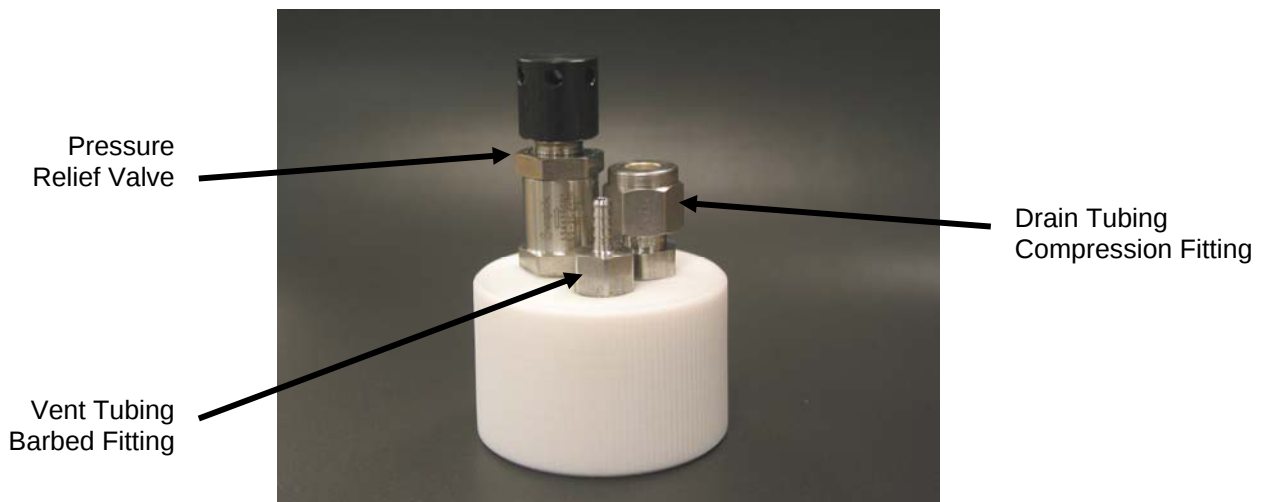

Figure E-4: Bottle Cap Connections
- d) Attach the other end of the vent tubing to the barbed fitting on the cap of the Waste Bottle. The vent tubing will be attached to the smaller barbed fitting and the drain tubing will be attached to the compression fitting (Figure E-4). Carefully place the tubing over the barb ensuring that the inner lining is completely over the barb. Grasp the tubing near the barb and push the tubing onto the barb until it is all the way down.
- e) Install the nut and ferrules onto the drain tubing as shown in (Figure E-2). Insert the drain tubing into the drain fitting (Figure E-4) until it stops. Screw the nut on to the fitting until it is finger-tight. Using the wrenches supplied in the accessory kit, hold the body of the fitting with the $\frac{1}{2}$ " end of one of the wrenches. Tighten the nut with the $\frac{9}{16}$ " end of the other wrench until it is snug, approximately three-quarters of a turn with the wrench.